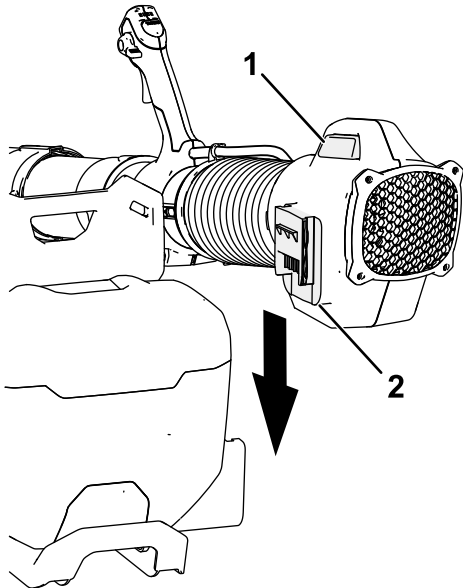

**Figure 4**
1. Align the blower cannon with the backpack power connection (Figure 4).